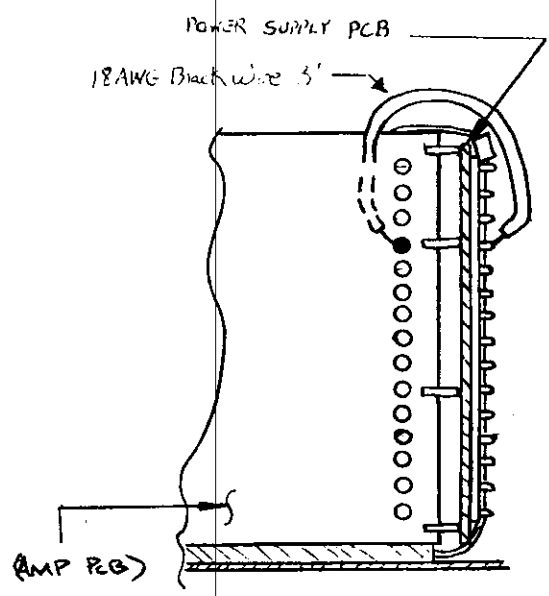

Figure 1
1. Solder one 3" 18 AWG black wire between J2 pin 12 on the power supply board and J2 pin 12 on the left amp board. Solder another 3" 18 AWG black wire between J4 pin 12 on the power supply board and J2 pin 12 on the right amp board (see Figure 1).